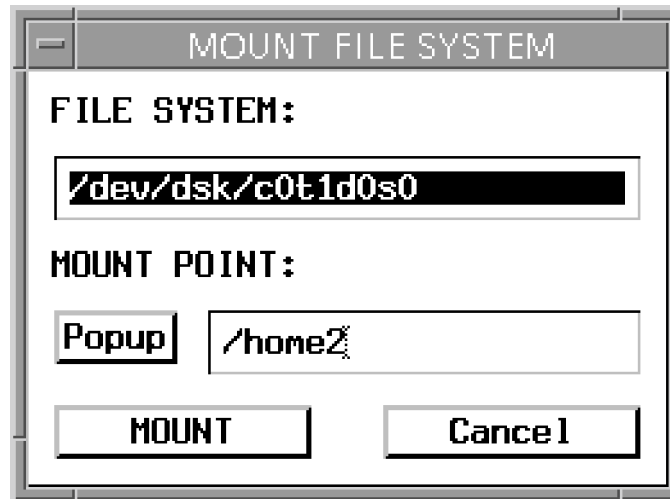

Figure 9. MOUNT FILE SYSTEM Window
- STEP 2: Click on the MOUNT button.** The MOUNT FILE SYSTEM window appears (Figure 9).
STEP 1: **Click on the MOUNT NEW button.** The MOUNT FILE SYSTEM window appears (Figure 9).